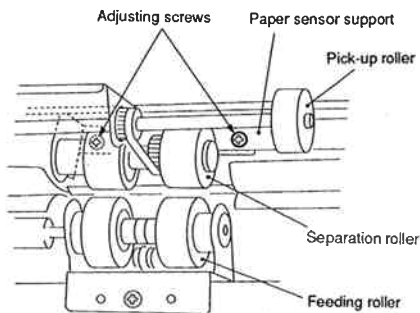

Figure 4-331c
- 3) If the position of the paper stack is not as indicated, loosen the two adjusting screws on the paper sensor plates, and reposition the sensors by moving the paper sensor support; see Figure 4-331c.